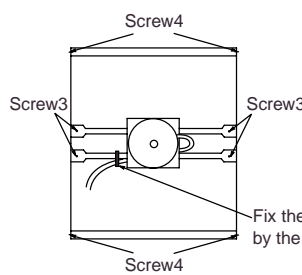

Fig.4 Top View
- Remove the screw3 of the motor, and exchange the motor, referring to Fig.4.